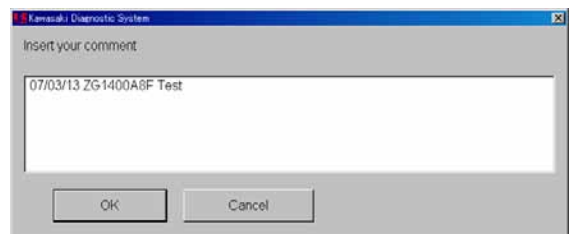

Fig. 5-13 Comment
- Enter a comment then select OK. Fig. 5-13